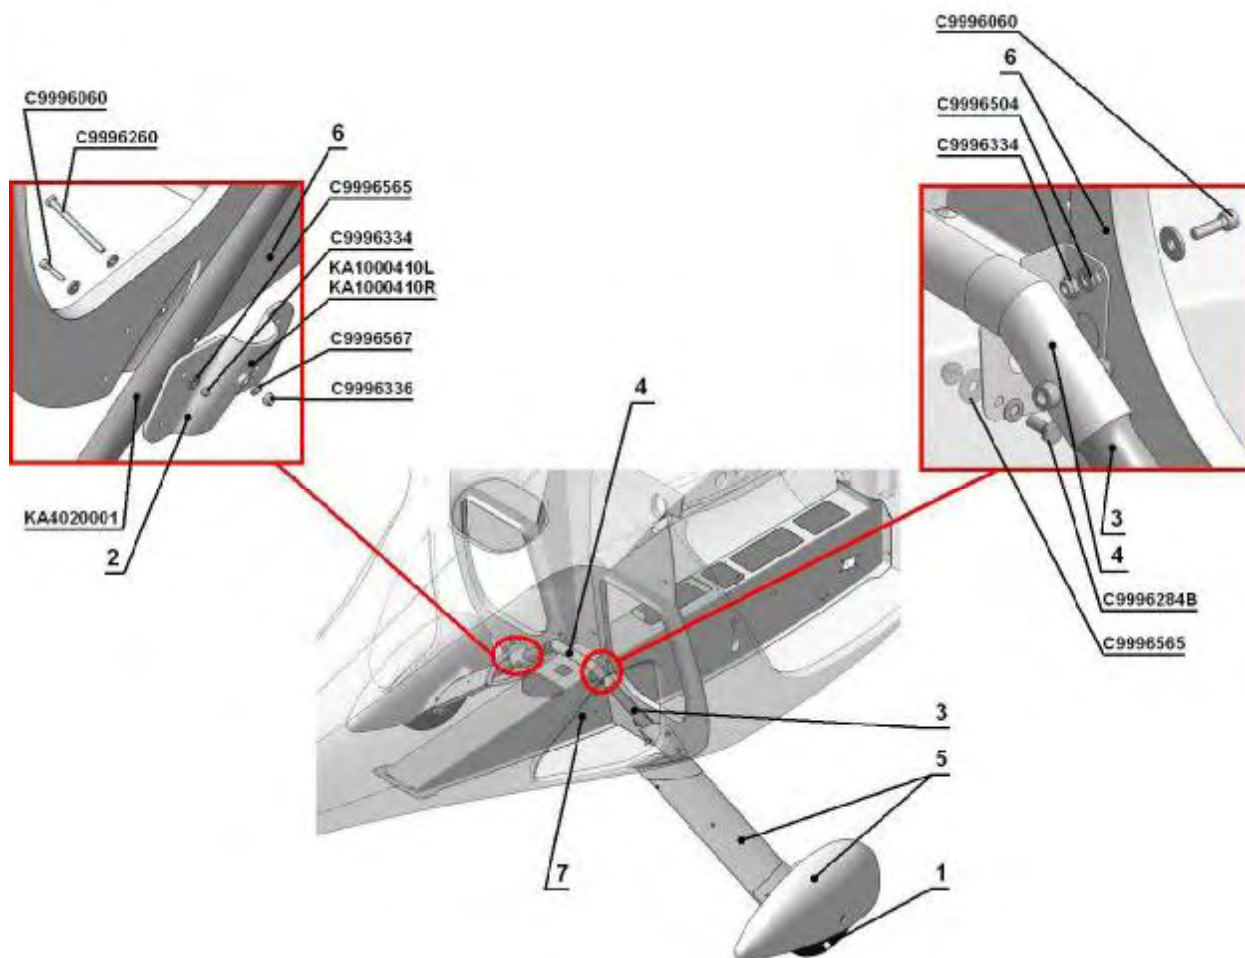

Fig. 3
- 1) Inspect the main gear bracket KA4020200 (Upper mounting unit), Fig. 3, item 4, for damages, dents, cracks, and paint delamination. Pay specific attention to welding seams areas.
- 3) Check the bulkhead (Fig. 3, item 6) and tunnel (Fig. 3, item 7) made of composites for damages, dents, cracks, delamination at the areas of landing gear attachments.
- 4) Inspect the main struts KA4020001 (Fig. 3, item 3) for bending, damages, dents, cracks on the surface and especially at the mounting holes areas, integrity and circularity of the mounting holes.
- 5) Inspect annually for all stated above with removal of all the parts obscuring (strut fairing (Fig. 3, item 5) and so on) the ones being inspected. Inspect the main wheel attachment KA4020100R(L) for bending, damages, dents, cracks on the surface and especially at the mounting holes areas, integrity and circularity of the mounting holes. In case of hard landing inspect immediately after landing.
4. Inspect wheel and strut fairings for integrity and security (Fig 3 item 5). If replacement is necessary, refer to Paragraphs 4.2.2.5 and 4.2.2.7.
Unscrew the nut (Fig. 3, pos. 1) from C9997417E (Fuel L-adapter A-Wek-6/4-1/8-MSv) and disconnect the line C9997205R (6x4 nylon tube) (Fig. 3, pos. 2). Prevent draining of brake liquid out of the hose by plugging it up.